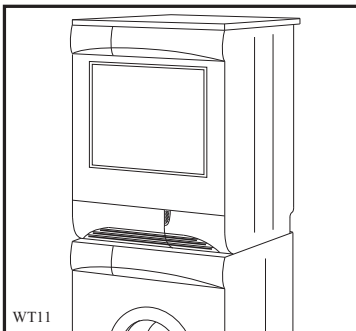

Fig 7
- Models with small door in plinth of the appliance (fig 7 and 8).